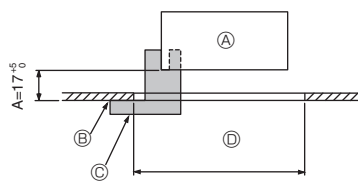
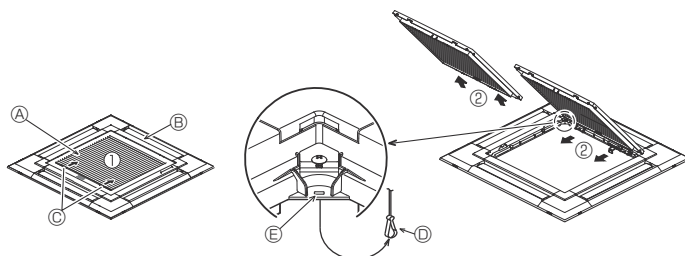
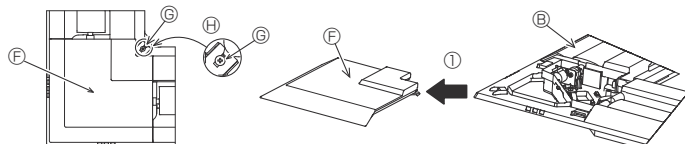

Fig. 9-2
Fig. 9-3
Fig. 9-4
9.2. Preparing to attach the grille (Fig. 9-2)
- With the gauge ② supplied with this kit, adjust and check the positioning of the main unit relative to the ceiling surface. If the main unit is not properly positioned relative to the ceiling surface, it may allow air leaks or cause condensation to collect.
- Ⓒ Installation gauge ② (inserted into the main unit)
9.2.1. Removing the intake grille (Fig. 9-3)
- Slide the levers in the direction indicated by the arrows ① to open the intake grille.
- With the intake grille in the "open" position, remove the hinge of the intake grille from the grille as indicated by the arrows ②.
9.2.2. Removing the corner panel (Fig. 9-4)
- Loose the 4 screws on the corner. Slide the corner panel in the direction of the arrow ① in the figure and remove the corner panel.
[Fig. 9-3] [Fig. 9-4]